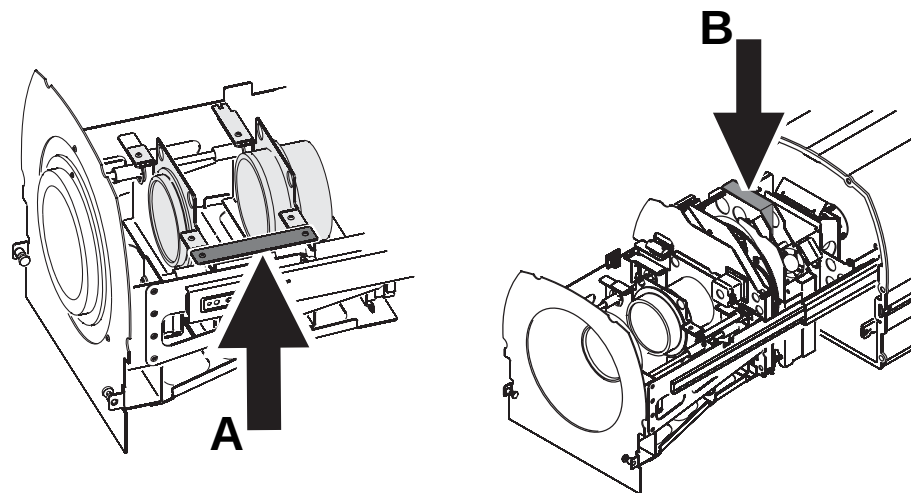

Figure 2: Protective packaging – remove before use!
- A foam block wedged around the CMY flags and a metal bracket on the lens cars (see Figure 2 on page 12) to protect components during transport. The block and bracket must be removed before use!
See Figure 2. Before the Exterior 1200 Image Projector can be used, you must open it, remove the shipping bracket (**A**) from the lenses and protective foam insert (**B**) from around the CMY flags, and then install the lamp supplied with the product. It will almost certainly be easiest if you do this now, before the luminaire is installed in its final location.